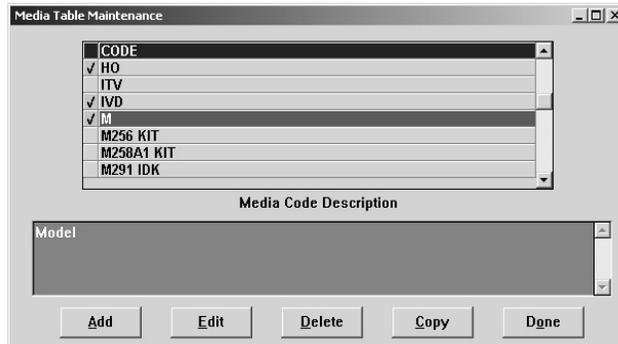
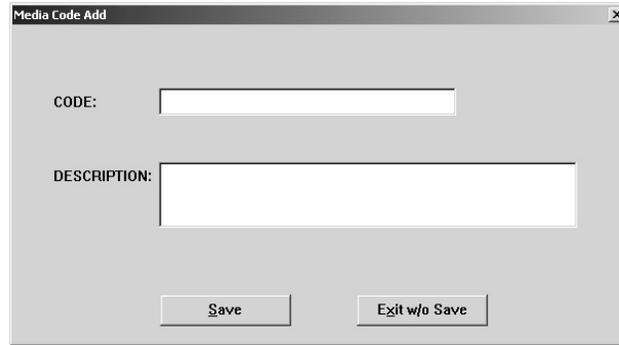
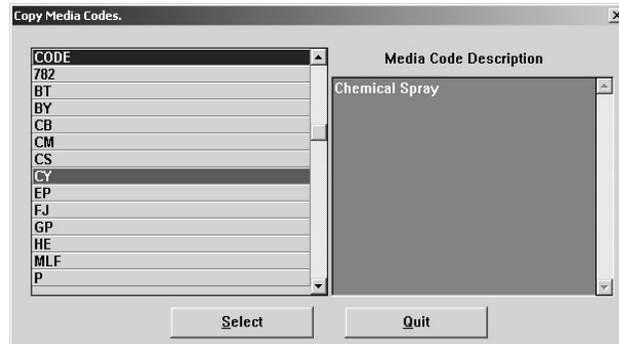

Figure 6-07. Media Table Maintenance
Figure 6-08. Media Code Add
Figure 6-09. Copy Media Codes
1. From the Tables drop-down menu, choose Media Codes. The Media Table Maintenance selection list box (Figure 6-07) opens.
1. From the Media Table Maintenance selection list box (Figure 6-07), click on **Add**. The Media Code Add dialog box (Figure 6-08) opens.
1. From the Media Table Maintenance selection list box (Figure 6-07), highlight the desired record by clicking on it.
2. Click on **Edit**. A dialog box similar to the one in Figure 6-08 opens.
1. From the Media Table Maintenance selection list box (Figure 6-07), highlight the desired medium by clicking on it. Remember that you can delete records for only those media you have added to the list.
1. From the Media Table Maintenance selection list box (Figure 6-07), click on **Copy**. The Copy Media Codes selection list box (Figure 6-09) opens with a list of all other media added to courses on the same computer or server as your MCAIMS installation.